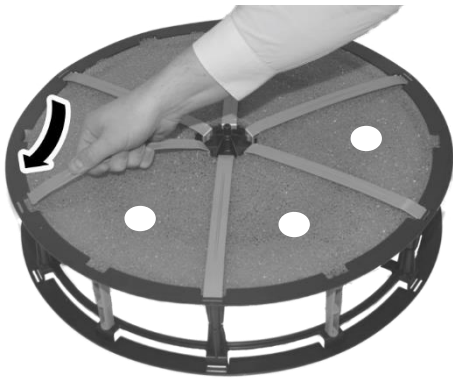

Fig. 26: Fastening the filter holder and reinserting the fastening pins
9. → Fold down the filter brackets and lock them into place. Reinsert the previously removed fixing pins. (Fig. 26).